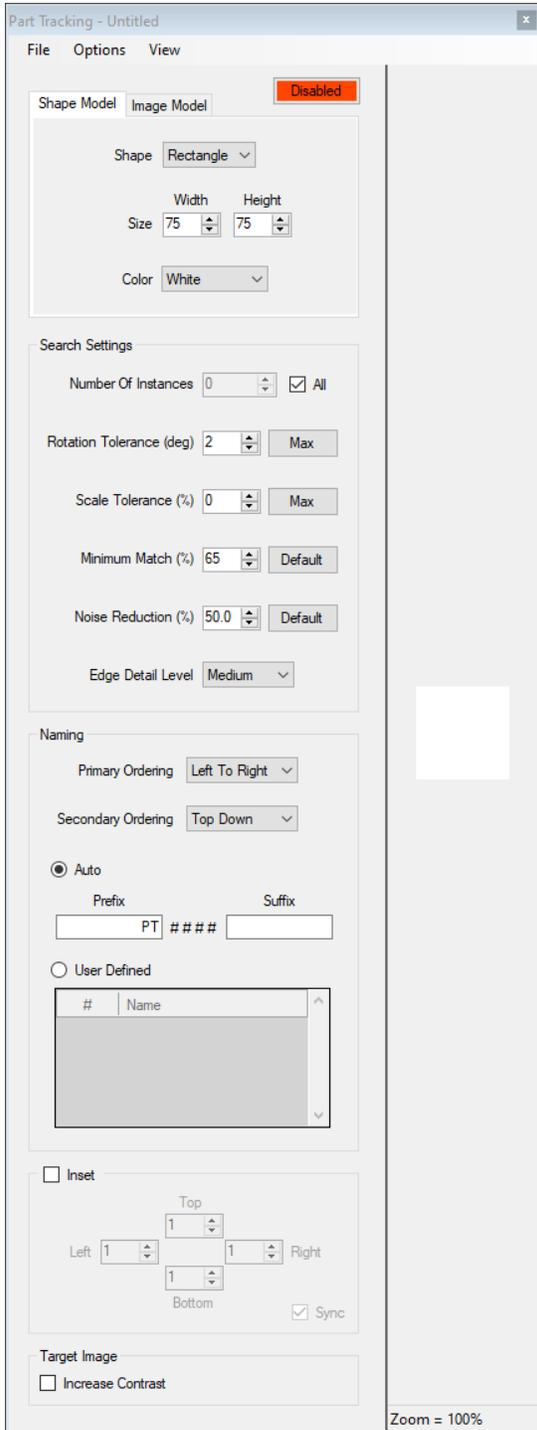

Figure 2.43 Part Tracking – Shape Model
- **Shape Model** – Defines the shape and size of the model that Part Tracking will use to find parts. The model shape and size is represented by the white box on the right side of the Part Tracking window (**Figure 2.43**).
1. **Figure 2.43**).